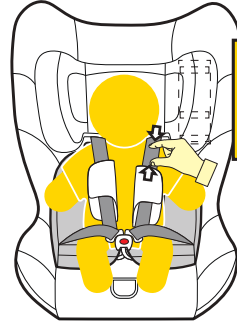

Figure 8
- Step 6:** Check the harness tightness by the **PINCH TEST**, this is achieved by pinching the harness webbing at the shoulders (refer Figure 8)